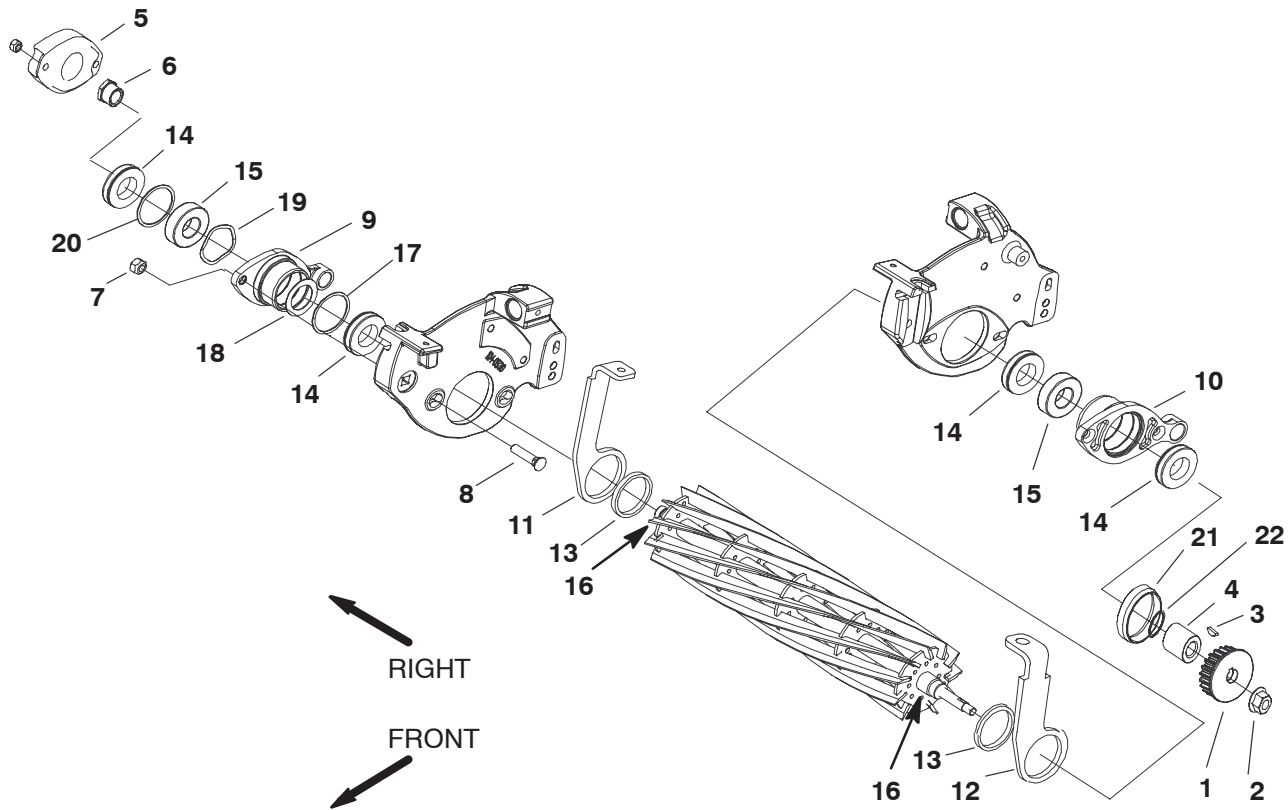

Figure 3
9. Remove the reel bearing lock nut from the right side of the reel (Fig. 3). The reel bearing lock nut has left hand threads.
10. Remove the two tapered nuts and plow bolts securing each reel bearing housing to the cutting unit side plates (Fig. 3).
Note: If this kit is being used to retrofit the cannister seals to oil seals, a new bearing locknut and spacer (Fig. 3, items 4 & 6) are required. The oil seals in this kit require the bearing locknut and spacer to have a 1.25" O.D. (old parts have a 1.125" O.D.). Order part no. 107-3227 bearing locknut and 107-3228 spacer from you local authorized Toro Distributor
11. Remove both the oil seals from each bearing housings (Fig. 3).
Note: If the reel bearings (Fig. 3) are worn or need replacement, refer to the Service Manual for bearing replacement instructions.
- Apply anti-seize lubricant to the bearing journals of the cutting reel (Fig. 3). Position the reel with the pitch arms and the bushings in the frame to accept the bearing housings. The reel shaft end with the keyway should be on the left side of the frame.
- Insert both the bearing housings (Fig. 3) through the frame onto the reel shaft.
- Apply anti-seize lubricant to the internal threads of the bearing lock nut (Fig. 3). Block the reel with a piece of wood to prevent it from turning. Install and tighten the bearing lock nut to the reel shaft.
- 20.** Install the spacer in the left side reel bearing housing (Fig. 3). Mount the reel drive plate assembly to the side of cutting unit with two locknuts, capscrew, and lockwasher. Tighten the fasteners to secure the assembly.
- 21.** Install the spacer and woodruff key to the reel shaft (Fig. 3). Apply anti-seize lubricant to the internal bore of the drive pulley and position the pulley onto the reel shaft. Install and tighten the flange nut that secures the pulley to the reel shaft.